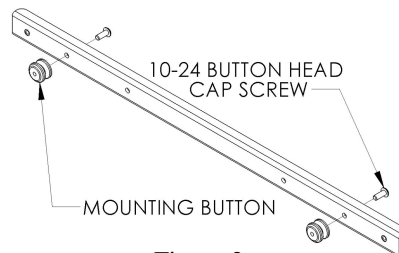

Figure 2
1. Using a 10-24 button head cap screw inserted from back side of bracket, secure mounting button, with chamfered hole of mounting button (larger surface) facing bracket, to the cross brackets (four places) (see Figure 2).